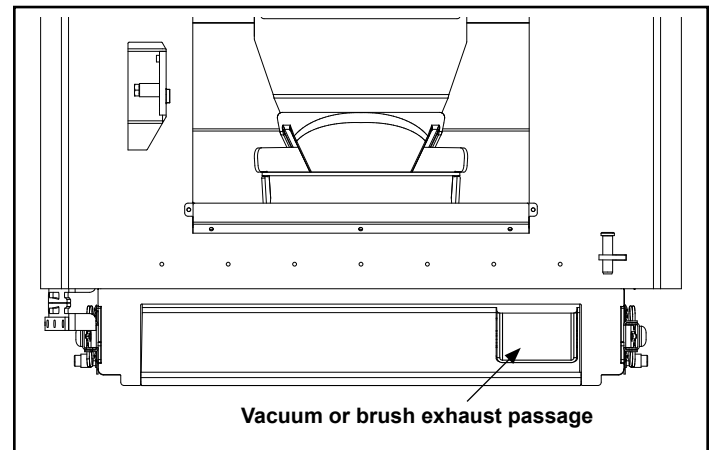

Figure 2.7
3. Guide the vacuum hose upward into the exhaust passage in the right rear corner of the firebox. Figure 2.7.